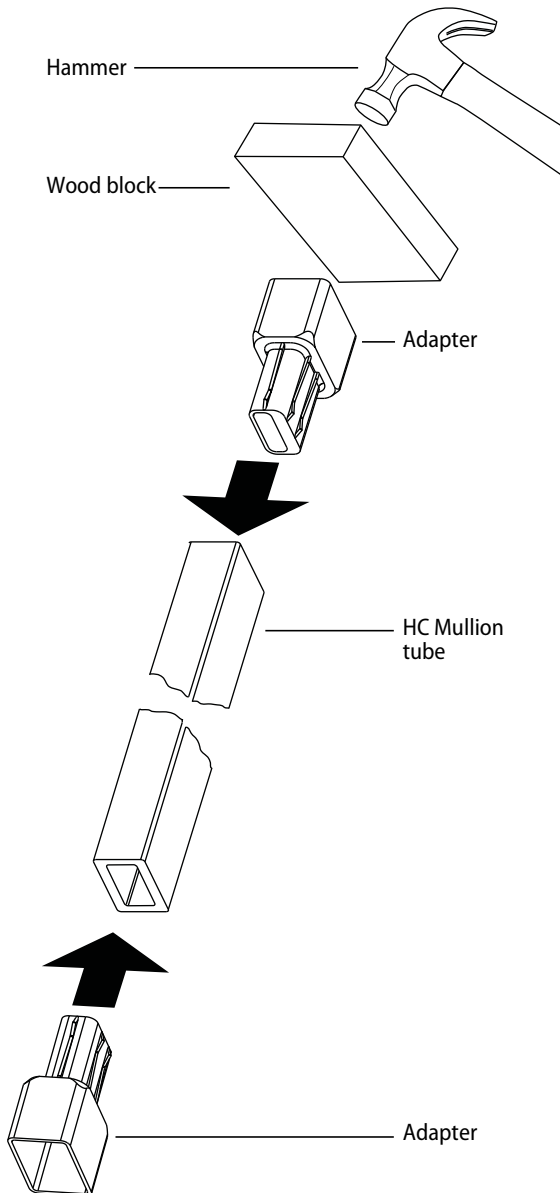

Figure 10 Driving in the adapters for HC units
- 2 Insert an adapter into the bottom end of the tube and drive it in until flush using a block of wood and a hammer. See Figure 10. DO NOT strike the adapter directly with the hammer because damage may occur to the product. See Figure 10.